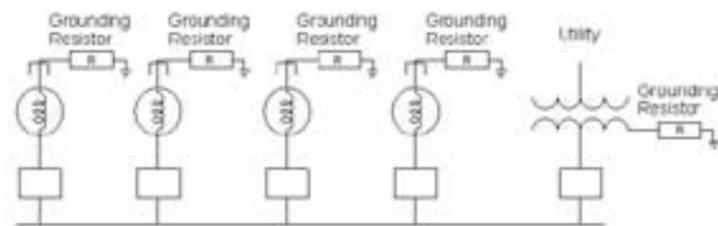

Fig. 2 Variation of Single Point Grounded System
As the generation capability within facility increase, as shown in fig. 2, the value of ground fault current also increases. As an example, if four generators are connected to a common bus the maximum ground fault current may be anywhere between 200 A., if only one generator is on line, to 3200 A. if all four generators are online with a 800 A low resistance grounded system. As more and more generators are connected, the advantages previously listed quickly diminish.
**Multiple Point Grounded.** The schematic shown in fig. 2 is an example of a multiple point grounded. Each generating source is grounded through its own grounding resistor. There is no risk of leaving a source generator ungrounded. There is also no safety hazard when servicing a generator.